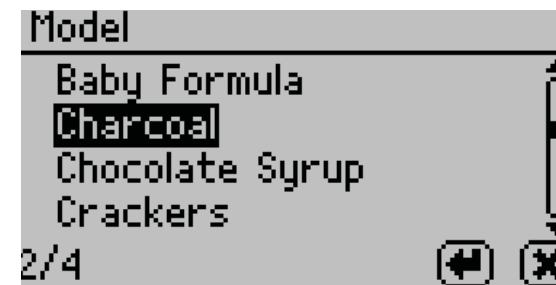

Figure 16 Moisture content model list
5. Select the desired model (Figure 16).